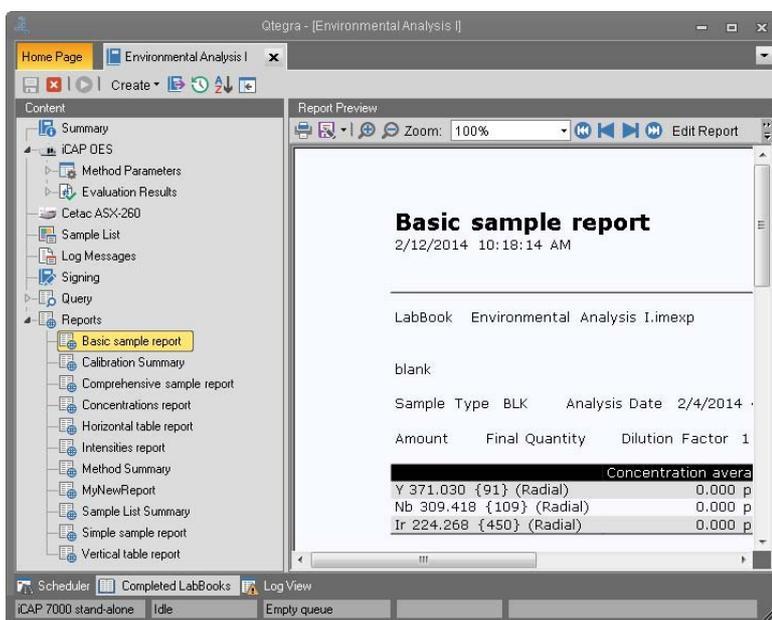

Figure 6-59. Report Preview of a completed LabBook
2. Click **Reports** to open the Report Preview, see Figure 6-59.